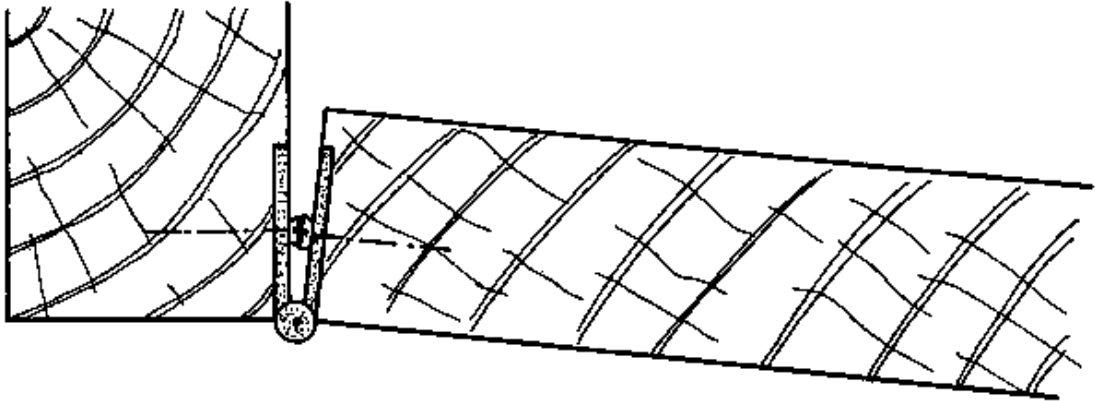

Fig. 4
- When the hinge is screw bound, the heads of the screws obstruct the door so that it can't close properly. This is often the case when the screws are too thick for the hinges, or the heads are too large. The only remedy is to fix the correct screws (Fig. 4).